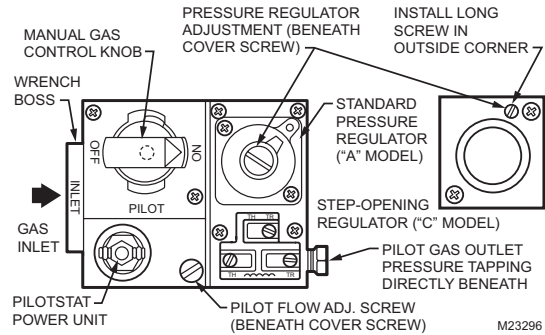

Fig. 6. Top View of Standard Capacity Gas Control.
6. Connect pipe to control inlet and outlet. To tighten inlet and outlet connections, use wrench on projecting wrench boss (See Figures 6 and 7).
3. Unscrew brass compression fitting from pilot gas outlet (Figures 6 and 7). Slip fitting over tubing and slide out of way.
The thermocouple connection to the power unit or electrical cut-off (ECO) connector (Figures 6 and 7) is an electrical connection and must be clean and dry. Never use pipe compound. Tighten only 1/4 turn beyond finger tight to give good electrical continuity.